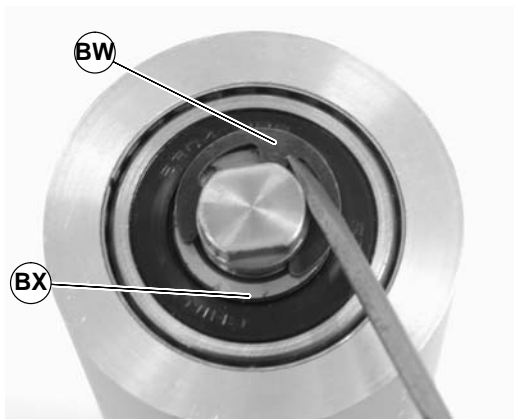

Figure 51
- Remove the pulley shaft assembly: remove the clip ring (BW of Figure 51) and washer (BX) from one side of the pulley assembly.